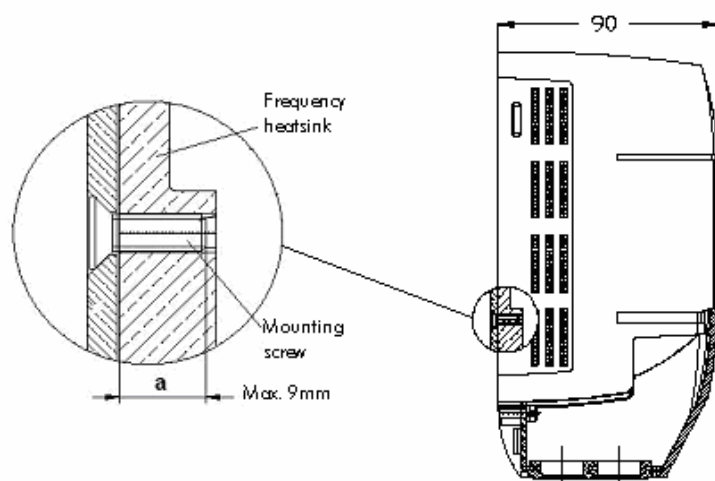

Figure 2 – Mounting screws detail
3. Use 5/32 (M4) mounting screws in order to fasten the frequency inverter to the backing plate. Bolt length "a" (see figure 2) must not exceed 9 mm. Tighten the screws with the same torque (1.5N.m).